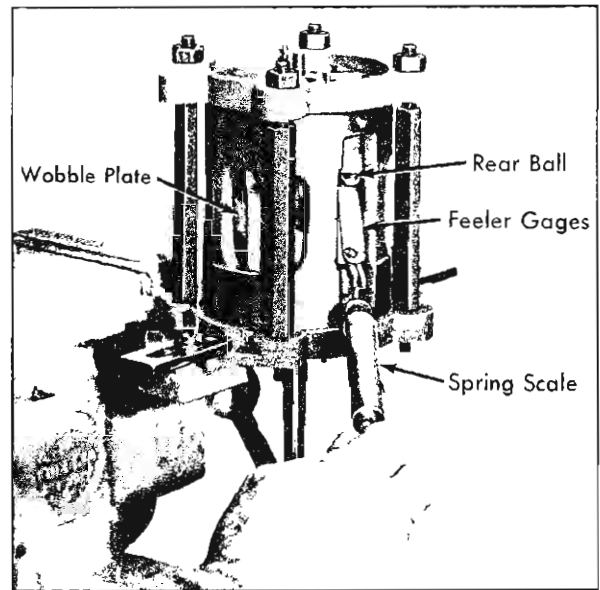

Fig. 36—Checking Clearance Between Rear Ball and Wobble Plate
12. Use a leaf type feeler gauge and a suitable spring scale to check clearance between the REAR ball and the wobble plate (fig. 36) of the No. 1 piston.